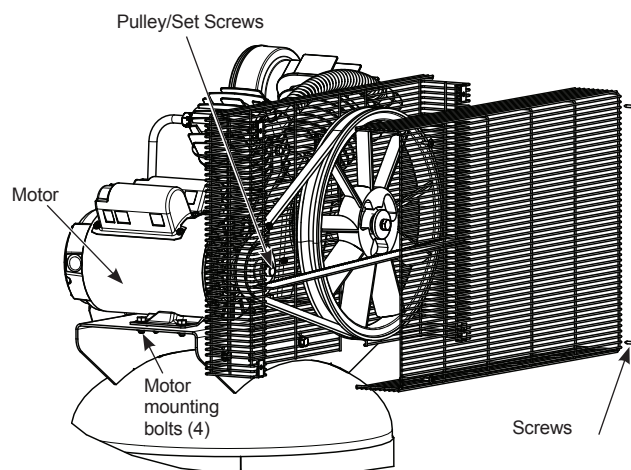

Fig. 7
1. Remove the front of the beltguard by removing the screws. (See **Fig. 7**)
4. Retighten the motor mounting bolts to 20-25 Ft-Lbs (27-34 Nm) (See **Fig. 7**)
1. Remove the front belt guard by removing the screws. (See **Fig. 7**)